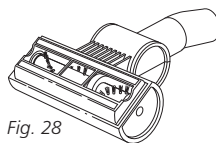

Fig. 28
- 3 Turn the turbo brush over to inspect the rotating brush and cut away any build-up of hair or string wrapped around the rotating bristle brush with scissors. (Fig. 28)